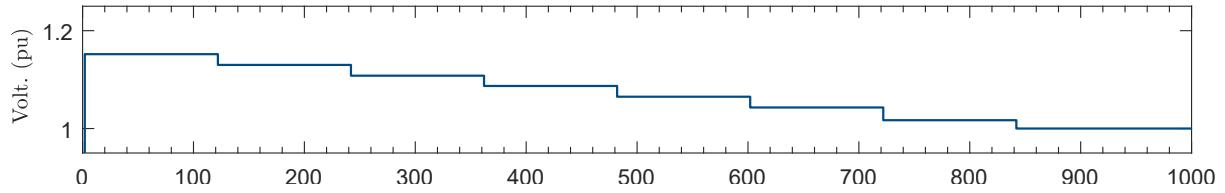

Fig. 7: Inverter reconnection with elevated Voltages.
2) **Enhanced Voltage Management:** To test the response of the inverter after the system starts with elevated voltages. In this test, the inverter is disconnected and restarted with nominal frequency but with an elevated voltage level of 265V. This voltage is stepped down 5V every two minutes until it reaches 230V, shown in Fig. 7. The purpose of this test is to find the reconnection voltage levels for each inverter.